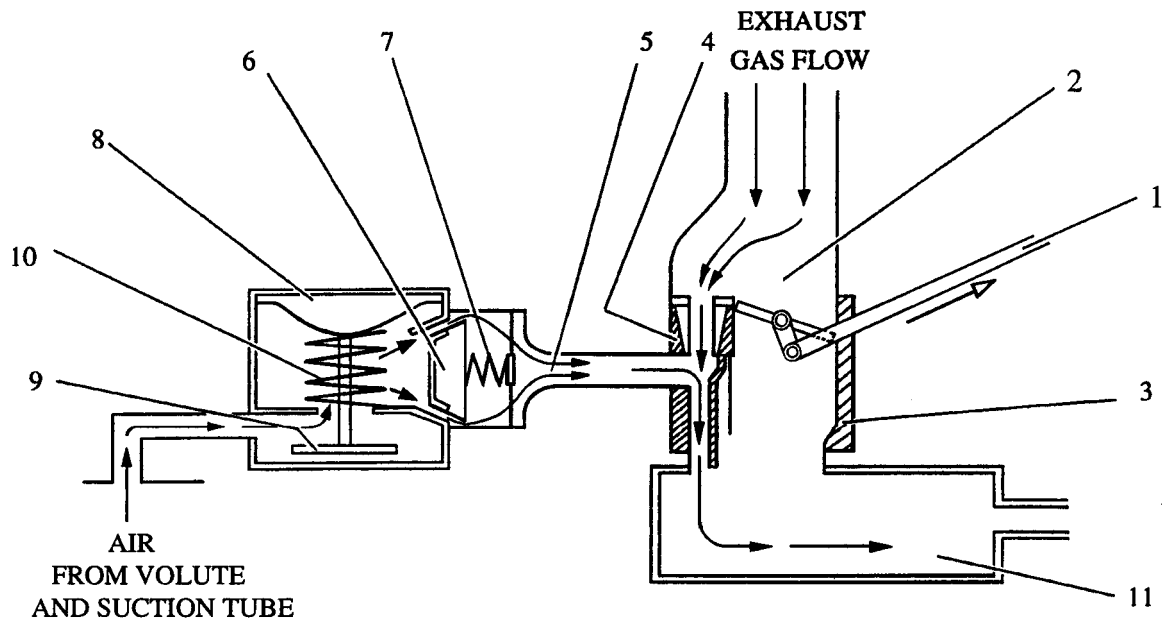

Fig. 5-2 Exhaust gas and water flow – ejector operating
The ejector becomes operational when the primer operating rod (1) is pulled to the limit of its travel (Fig. 5-2).